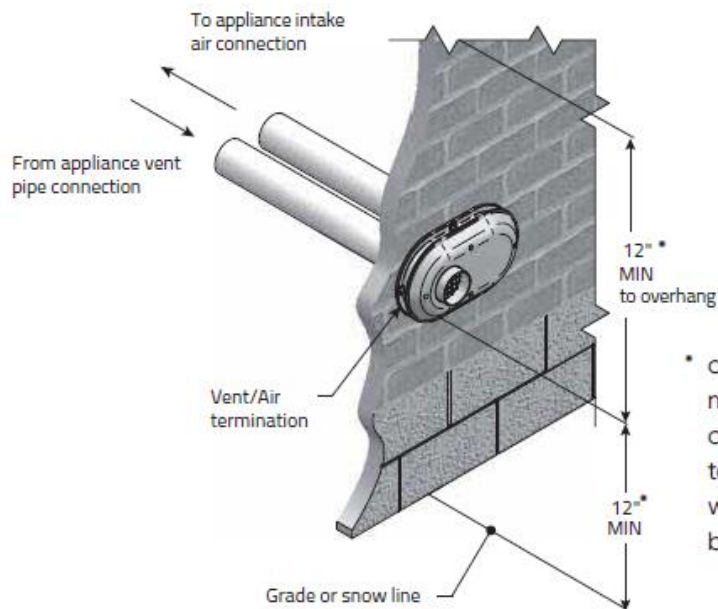

Figure 25 – Typical Side Wall Termination
The vent termination **must** maintain all termination clearances and be installed in accordance with local building codes and/or The National Fuel Gas Code ANSI Z223.1 (Latest Edition) or CGA/CAN B149 Installation Code (see Figure 25).
When locating the penetration of the vent and air pipe, ensure the termination is properly oriented as shown in Figure 26 and ensure that it maintains minimum clearance requirements as shown in Figure 25. For multiple vent terminations, ensure that a minimum clearance of 12 in (30 cm) is maintained between edge of air inlet and adjacent vent outlet and that all vent pipes and air inlets terminate at the same height to avoid the recirculation of flue gases and the possibility of causing severe personal injury, death, or substantial property damage (see Figure 28).
2. Slide both the intake and vent pipe through the holes. Solvent weld both pipes to the base of the vent termination kit (see Figure 25).